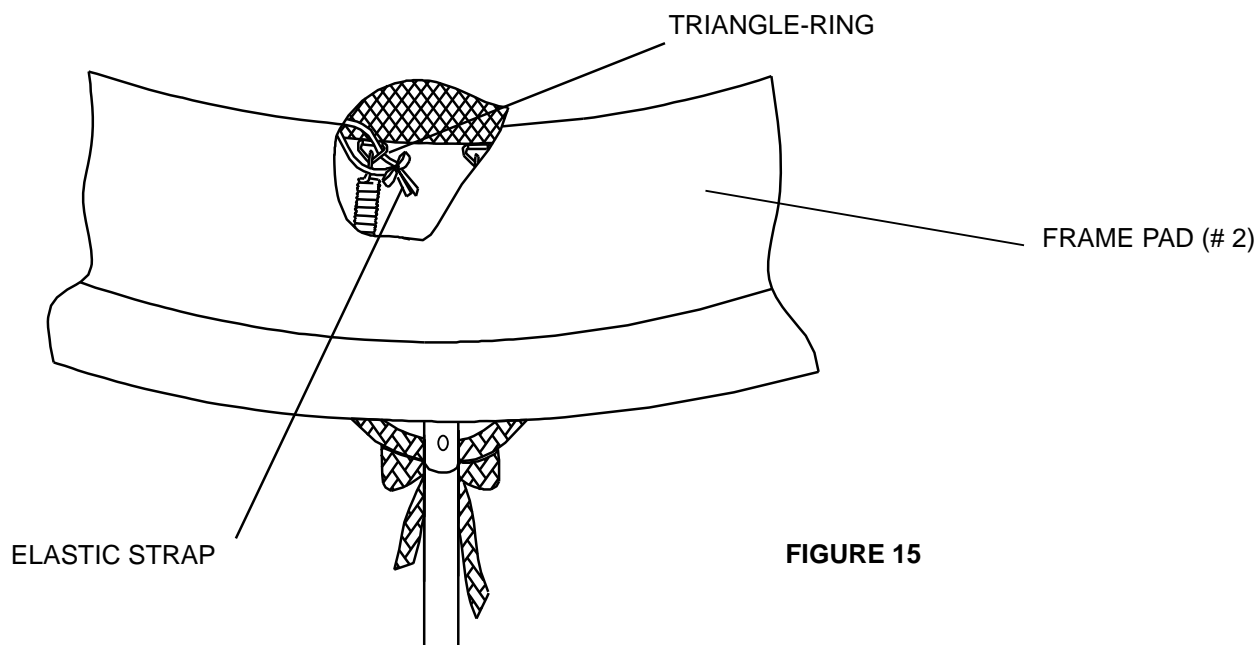

FIGURE 15
- C. Finally, wrap the elastic straps which are located next to the Trampoline Mat around the triangle-rings and tie a knot as shown in FIGURE 15. Make sure the knot is tight and the frame pad is securely attached to the trampoline. Repeat in the same manner for all the straps.